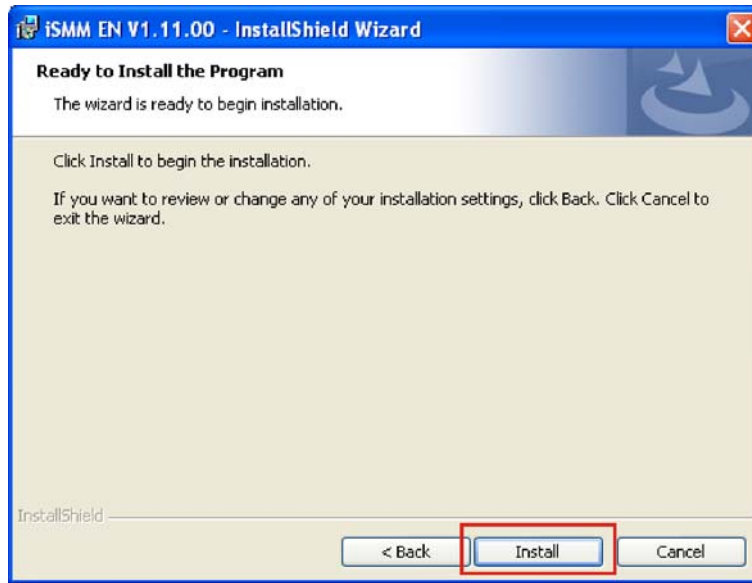

Figure 7-35: iSMM Installation Confirmation
Step 18: The Installation Confirmation screen appears. (Figure 7-35)
Step 19: Click **INSTALL** to begin installing the drivers. (Figure 7-35)